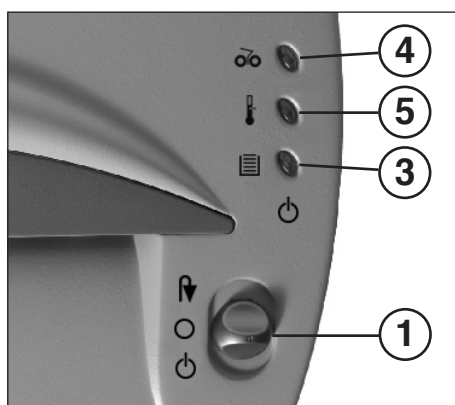

fig. 1
1 = Function switch (fig. 1)
3 = Pilot lamp (fig. 1)
4 = Pilot lamp „material jam“ (fig. 1)
5 = Pilot lamp „motor overload“ (fig. 1)
- Turn the function switch (1) (fig. 1) in position „“.
Please make sure that the shredder is switched off over night (Turn the function switch (1) (fig. 1) in position „O“).
- The pilot lamp (4) (fig. 1) lights up.
- Turn the function switch (1) (fig. 1) **briefly** to position „R“ (material will be released), then in position „O“.
- The pilot lamp (4) (fig. 1) goes out.
- Tear off the excess paper over the feed slot and then turn the function switch (1) (fig. 1) to position „O“.